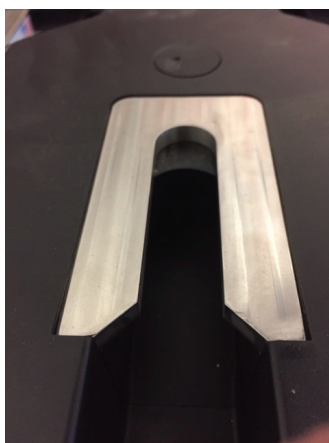

Figure 5:
11. Check the floor plate extrusion for damage at the cleat locations (Figure 5 on page 2). Deformation of the floor plate around the mounting holes indicates that the product has been involved in a major crash.